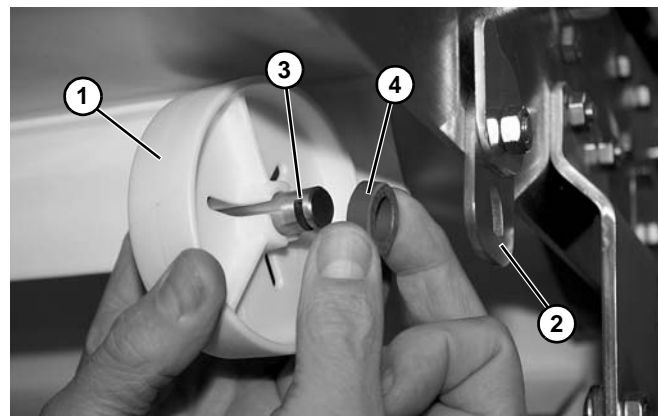

Figure 29
5. Install each puck (Figure 29, item 1) onto return bracket (Figure 29, item 2) with stub shaft (Figure 29, item 3) and spacer (Figure 29, item 4).